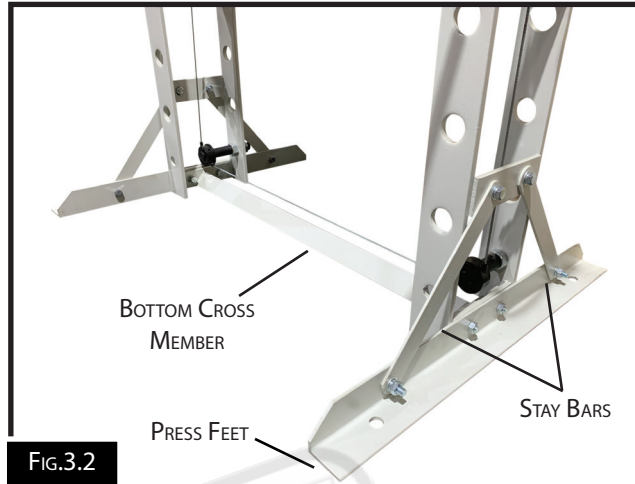

FIG.3.2
1. Attach the feet and the bottom cross member to the side supports, using the nuts, bolts and washers. (Fig.3.2)